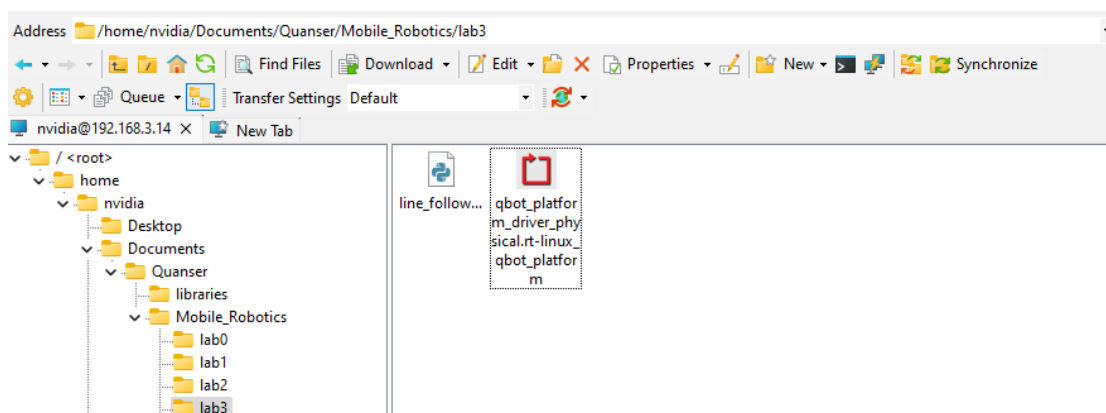

Figure 1. Correct directory for python script
- a. navigate to "`~\Documents\Quanser\Mobile_Robotics`" and create a new folder "`Lab3`", as shown in Figure 1. Then copy the updated line\\_following.py to "`Lab3`". In addition, copy the qbot\\_platform\\_driver\\_physical.rt-linux\\_qbot\\_platform over. (You can just drag the files over).